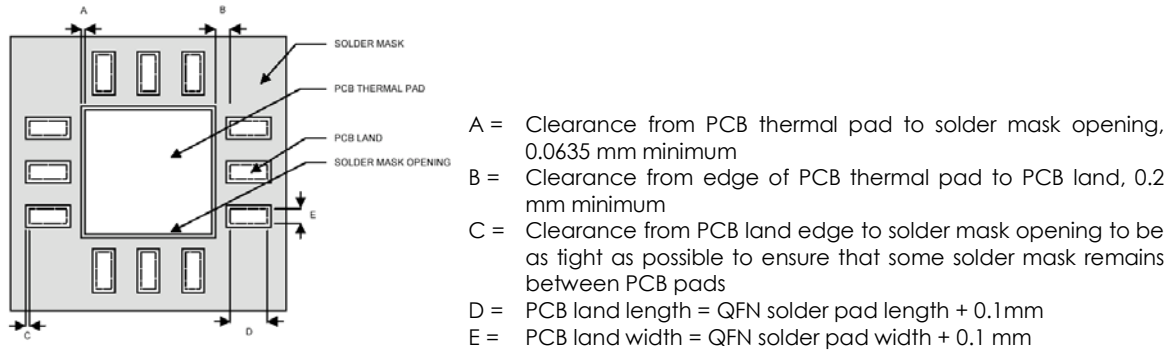

Figure 7: PCB land and solder mask recommendations
1. PCB land and solder masking recommendations are shown in Figure 7.